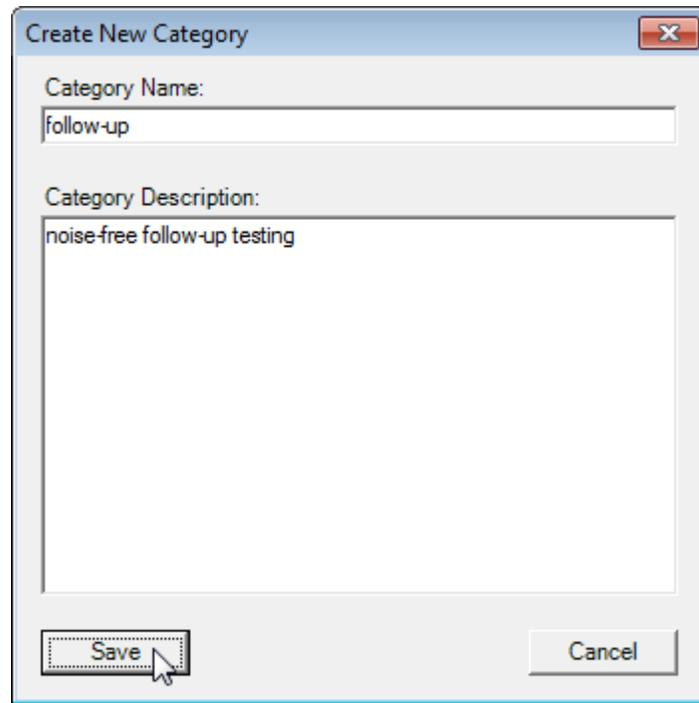

Figure 1.28: The **New Category** window.
- To create a new category, choose **New**, assign a name to the new category and type a description into the text fields, then choose **Save** (see Figure 1.28).